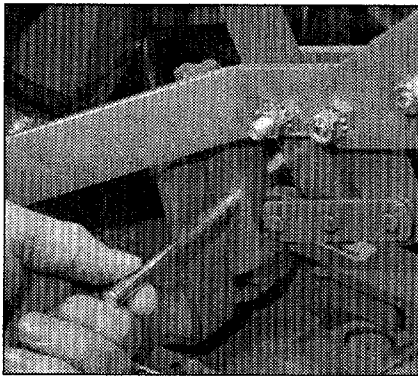

Figure 5-14: With Wheels/Tines/PTO Drive Lever in **NEUTRAL**, insert tool through hole in adjustment block.
3. Insert the belt adjustment tool through the hole in the side of the adjustment block, spacing the ends of the tool equally on both sides (Figure 5-14). Rotate the tool so the slotted end faces down.